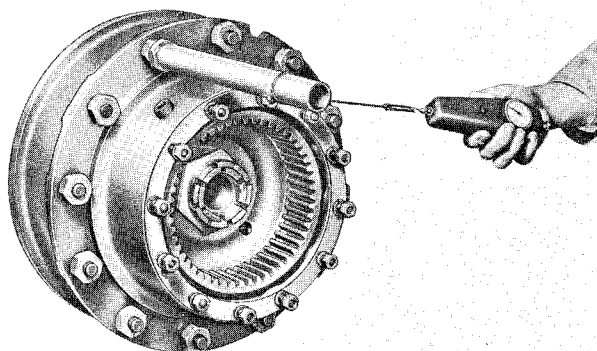
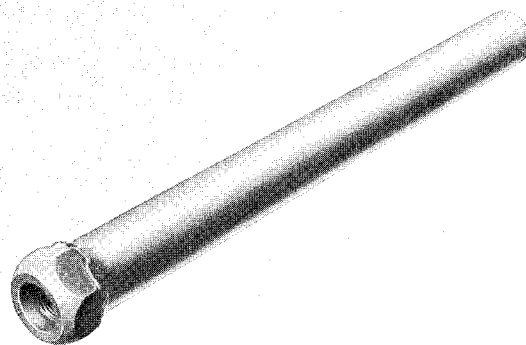

Figure 55. Alternate Method of Checking Bearing Preload
Figure 56. Wheel Lug Extension
8. If it is not convenient to remove the wheels, check the wheel bearing preload torque as shown in Fig. 55. The extension (Fig. 56) permits a reading to be taken without interference from the tire.